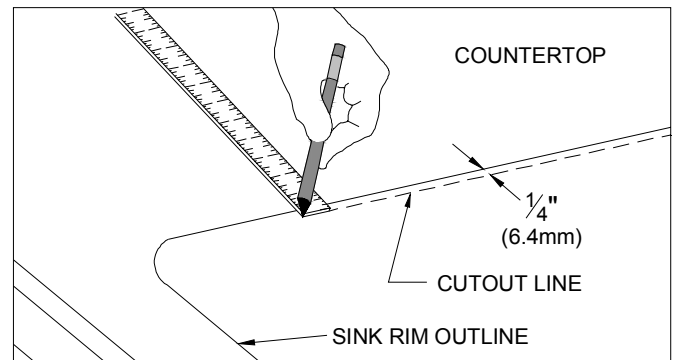

Figure 1C
- Using a ruler, measure 1/4" inside the sink rim outline and draw a line completely around the entire outline. (FIG. 1C)